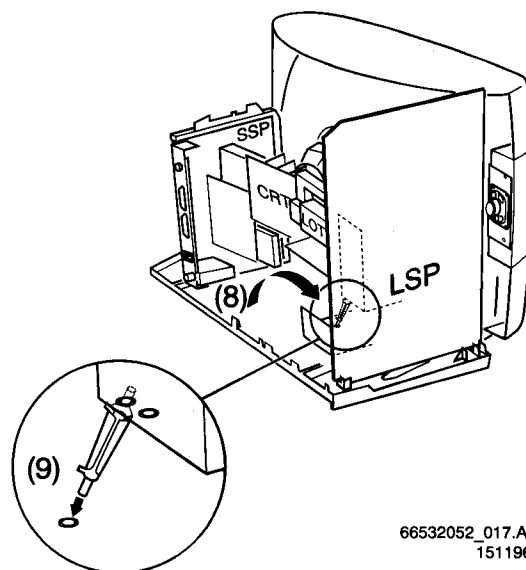

Figure 4.5
SSP and LSP copper side without table/workbench (Figure 4.5)
5. Put the LSP to the vertical position (Figure 4.5), copper side at the right hand, LOT above (8). For this position, special grooves are made in the bottom plate of the cabinet.
6. Fix the position of the LSP by putting the service pin between LSP (heat sink) and bottom plate (9). There are special holes in the heat sink and the bottom plate to put the service pin in.